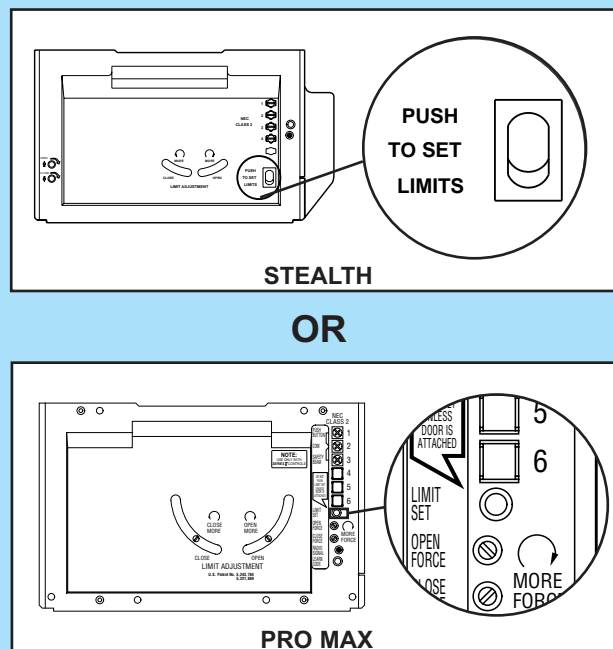

Fig. 6-1
- Some building codes require direct wiring to a branch circuit. If direct wiring is NOT required, plug door operator into grounded outlet (Fig. 6-1).
2. Set "OPEN" limit switch (Fig 6-1).
3. Set "CLOSE" limit switch (Fig. 6-1).